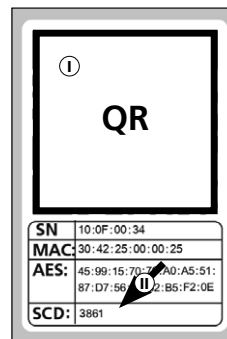

Fig. 2
QR code (I) and security code (SCD) (II) are required for integrating the keypad into the BURG-WÄCHTER KeyApp (Fig. 2).